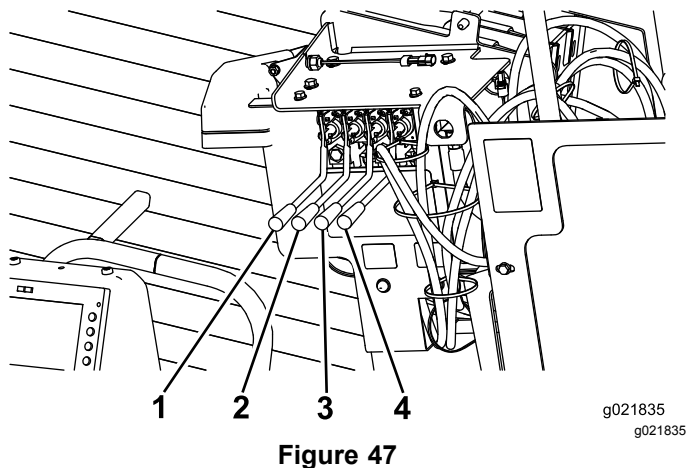

Figure 47
- Press the 2 right stake levers in to lower and spin the right stake auger until it seats fully (Figure 47).